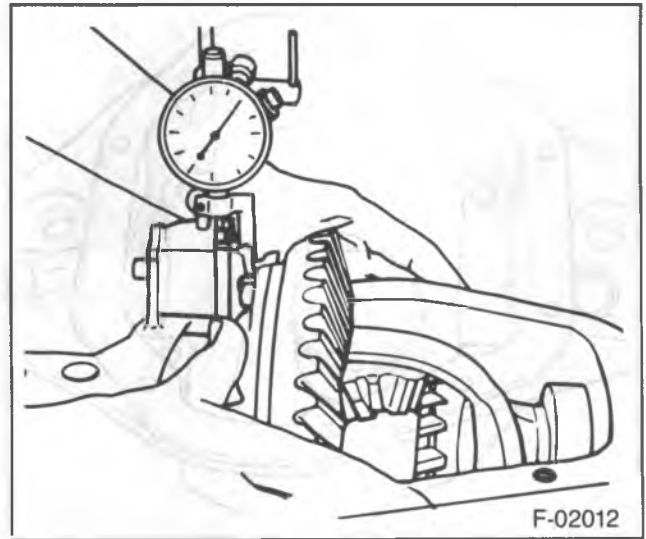

Figure 22—Determining Differential Shim Pack
1. Assemble the differential case (22) to the axle housing. The pinion must not be installed.
2. Mount a dial indicator having a minimum travel of 5 mm (0.200-inch) with a magnetic base on the ring gear bolt side of the housing (figure 22).